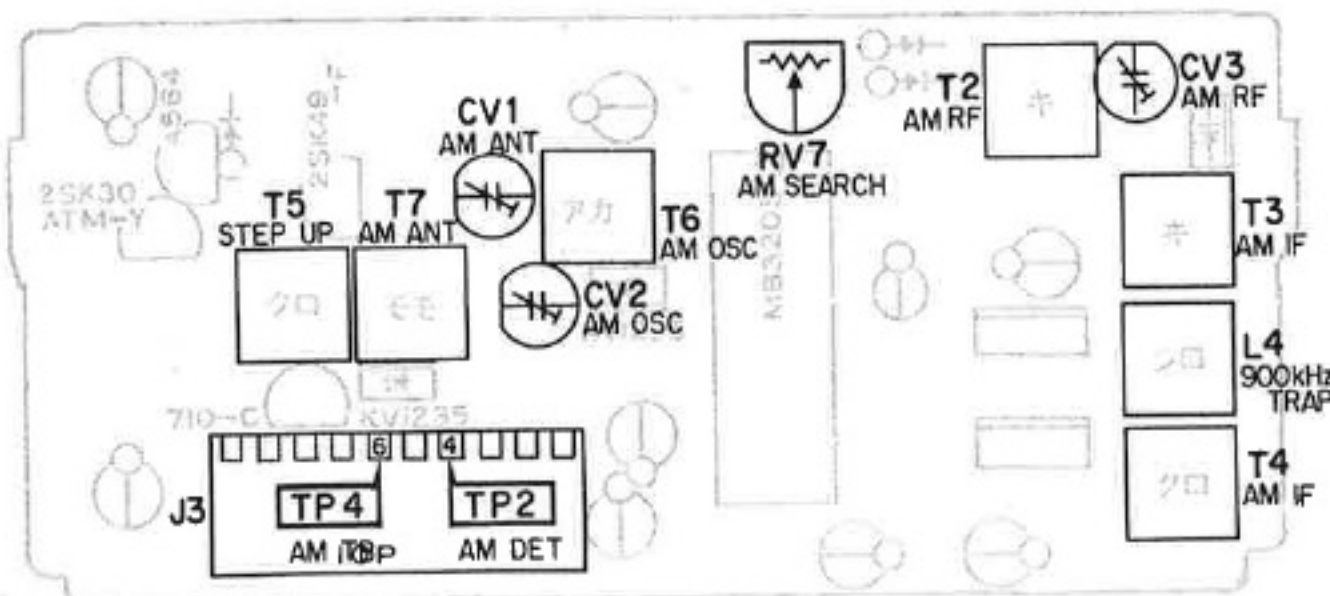

Fig. 20-1 (C33033060)
### (2) Alignment (Refer to Fig 20-1)
(2) Alignment (Refer to Fig 20-1) VTVM2 .....No used
### (2) Alignment (Refer to Fig. 20-1)